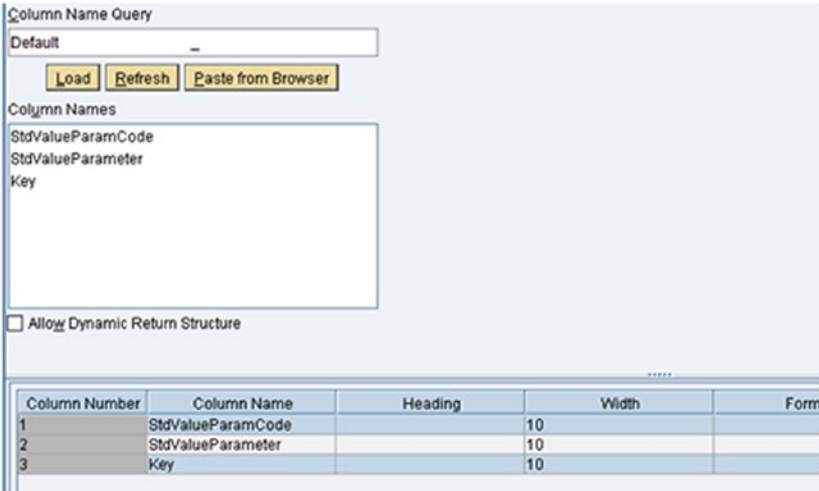

Figure 7-28. *i5Grid layout configuration*
- *i5Grid Layout:* Layout configuration configures the data source and the column properties of the i5Grid. See Figure 7-28.